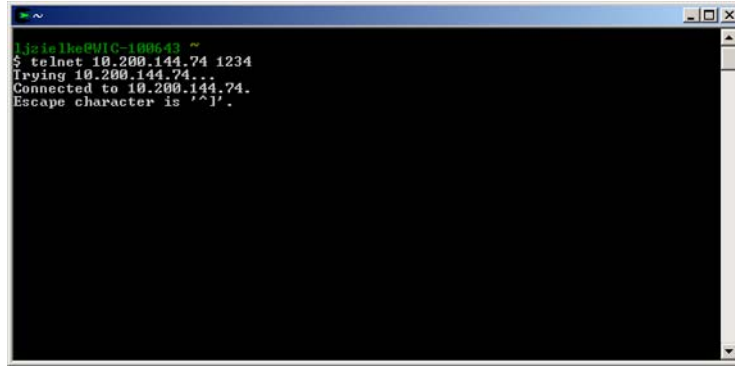

Fig. 3-39 Command Window Example
4. The Test Set can now be accessed using desired application. For example, open a command window and enter telnet Test Set's IP Address TCP/IP Port. Refer to Fig. 3-39 which shows an open command window connected to Test Set IP Address 10.200.144.74 on port 1234.